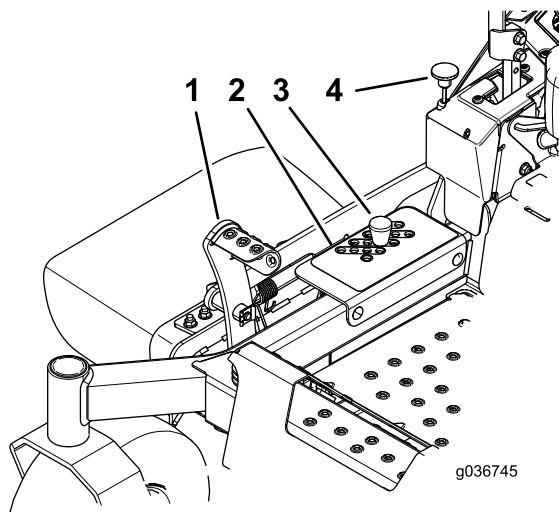

Figure 35
2. Push on the deck-lift pedal with your foot and raise the mower deck to the TRANSPORT position (also the 127 mm or 5 inch cutting-height position) as shown in Figure 35.
3. Remove the pin from the height-of-cut bracket (Figure 35).
4. Select a hole in the height-of-cut bracket corresponding to the height-of-cut desired, and insert the pin (Figure 35).